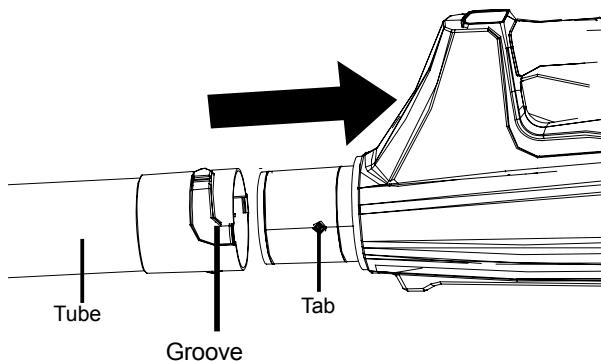

Fig. 2
1. Align either of the grooves on the tube with the tabs on the blower housing. Push the tube onto the blower housing until the tab engages the grooves (Fig. 2).